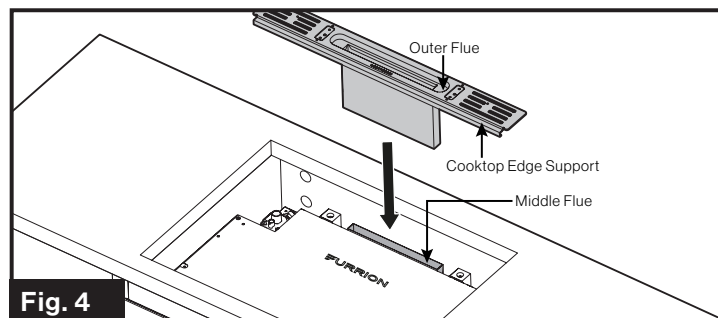

Fig. 4
1. Install the vent outer flue assembly onto the top of the oven unit. Ensure the outer flue slides over the middle flue opening on the oven. Ensure the vent outer flue vent assembly has the cooktop edge support facing forward. (Fig. 4)
The minimum overlap of the vent outer flue and the vent oven middle flue is ¾". Refer to Fig. 4 for assembly instructions.